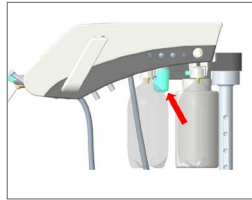

Figure 15
4. As for the backflow from high-speed air, the oil in the air is collected in the dirt cup. It is recommended to drain once a day. Please check the level of the dirt cup and empty it if necessary. (Figure 15)